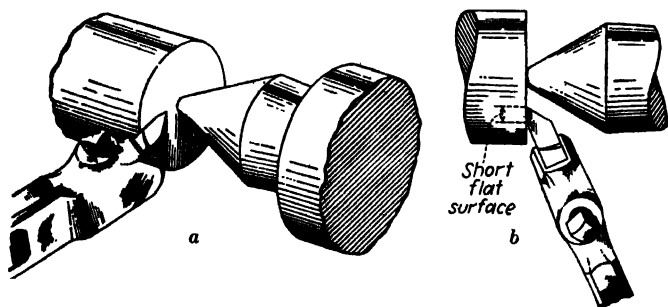

Fig. 13-4. Facing, or squaring.
**The Facing Operation.** A side tool is used for facing. There are several patented holders with bits or blades for facing, but perhaps the regular turning-tool holder with a bit ground as shown in Fig. 13-4 is as satisfactory as any of these.
To obtain a smooth finish the point of the side tool should be slightly rounded with an oilstone, or so ground as to present a short flat surface to the work (see Fig. 13-4). The length of this flat surface should be greater than the amount of the cross feed.